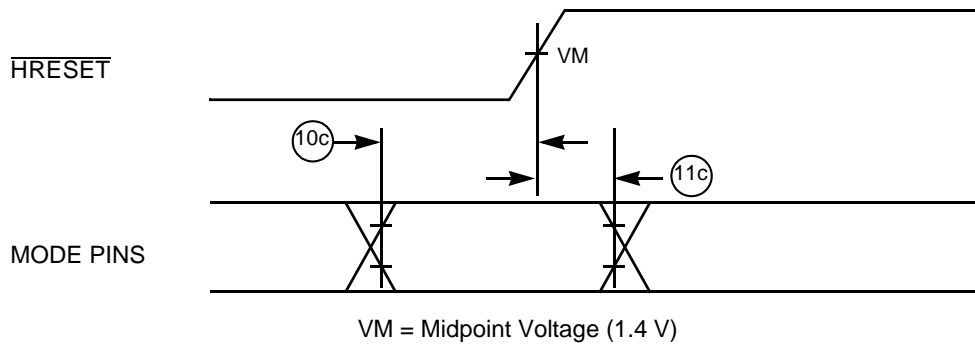

Figure 3. Mode Select Input Timing Diagram
This table provides the input AC timing specifications for the PID7t-603e as defined in Figure 2 and Figure 3.
- The setup and hold time is with respect to the rising edge of $\overline{\text{HRESET}}$ (see Figure 3).